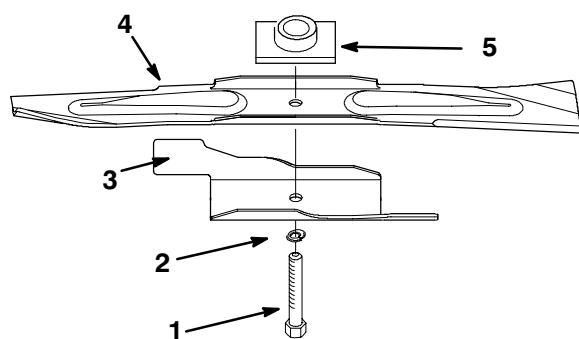

Figure 25
Grasp the end of the blade using a rag or thickly padded glove. Remove the blade bolt, the lock washer, the accelerator, and the blade (Fig. 25).
1. Install the blade onto the spindle and the blade driver with the curved blade tips pointing toward the lawn mower deck and the blade driver nesting in the recess of the blade (Fig. 25).
2. Install the accelerator, the lock washer, and the blade bolt (Fig. 25).